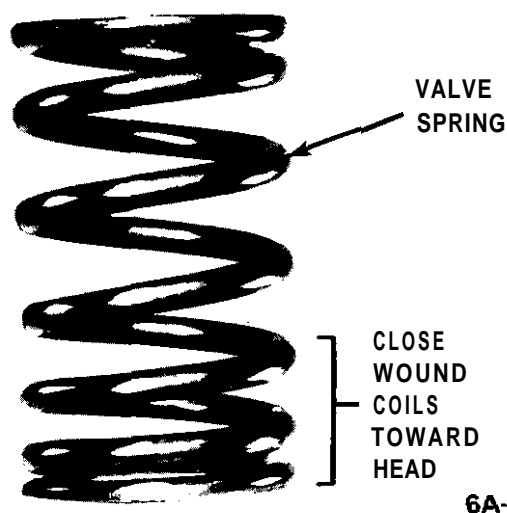

Figure 6A-24 Valve Spring
9. Lube valves with engine oil and reinstall valves, valve springs, caps and cap retainers using J-8062. Install valve spring with closely wound coils toward cylinder head. See Figure 6A-24.